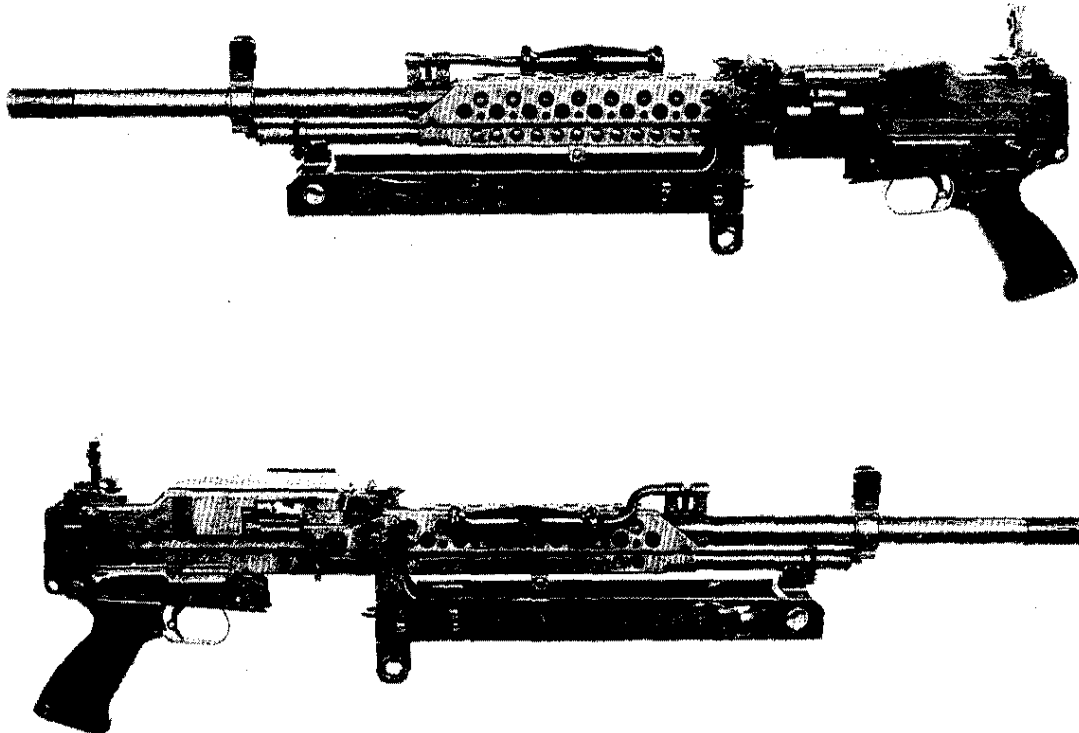

FIGURE 1. STONER MEDIUM MACHINEGUN - LEFT AND RIGHT VIEW
a. The Stoner medium machinegun, figure 1, is a belt-fed, air-cooled automatic weapon. The weapon is fired automatically by moving the selector lever to the "A" (automatic) position. The ammunition is fed into the weapon by means of a disintegrating metallic link belt. The weapon fires from the open-bolt position and has a quick change barrel and fixed head space. The operational energy is provided by the gas from the fired round.